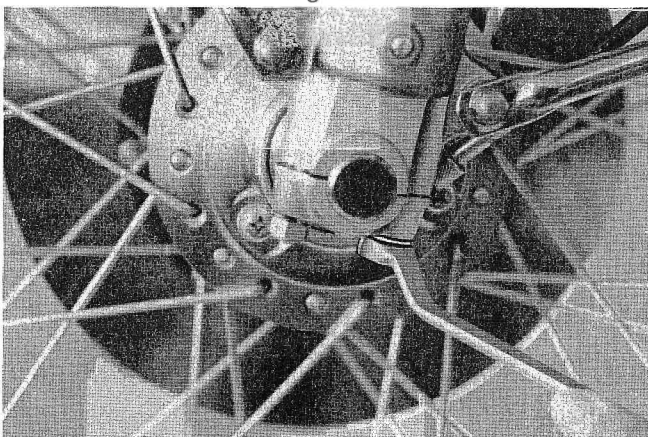

Fig. 17
13. Tighten the two axle holder nuts with specified torque. (Fig. 17)